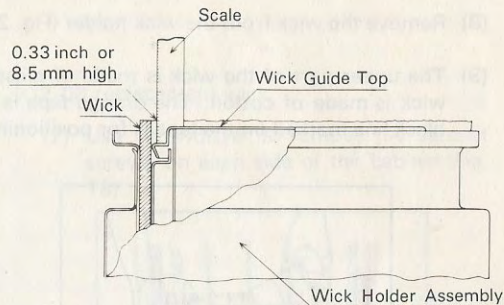

Fig. 27
- (15) Checking of auto shut-off device / Lift the wick, title the pendulum of the shut-off device to activate the shut-off mechanism. If the wick does not drop repeat step (10) to smooth any wrinkles or bulges.
- (16) Rechecking of wick height, Wick height is measured from the horizontal shoulder of the wick guide top to wick (Fig. 27). When the wick is fully raised by turning the shaft, the maximum wick height of the heater is 0.33 inch or 8.5 mm. Reset the wick again if the wick height is different from specification.